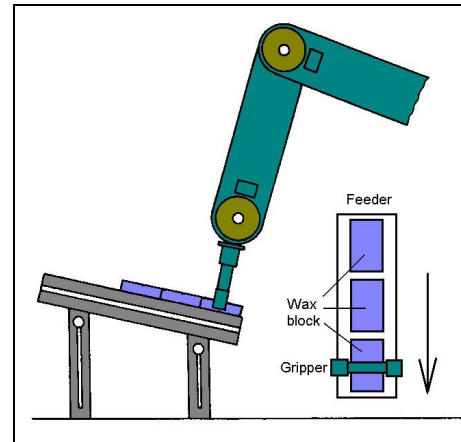

Figure 5-7: position 2
- 1 Make sure the parts feeder is loaded with blocks of wax, as shown in Figure 5-7.